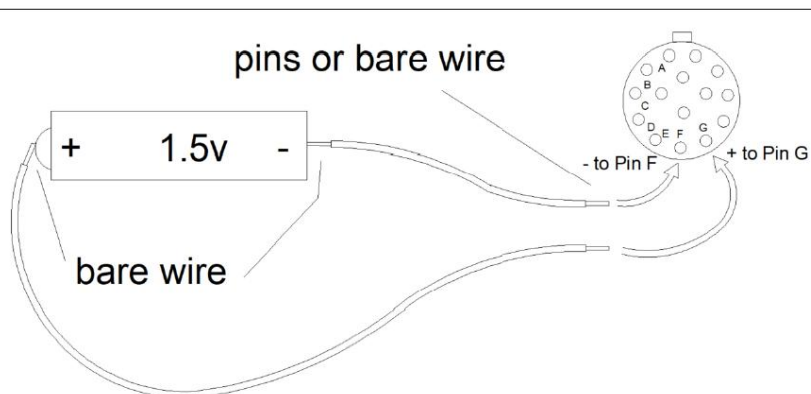

Figure 1
3. Install a 1.5V battery in the C-40 connector as shown in Figure 1 (below) (**OPTIONAL***)
2. Put the 1.5V battery in the C-39 (pin G+ F-) connector _____ (see Figure 1 below)